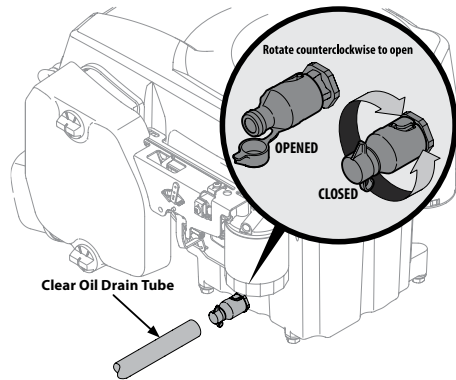
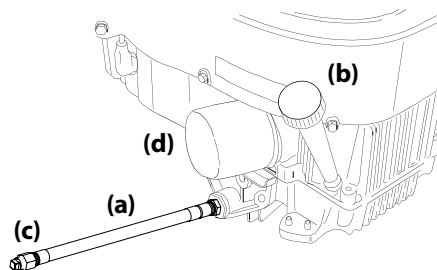

Figure 4-1
Figure 4-2
- Your engine is equipped with either a twist-and-pull oil drain (see Figure 4-1 and go to Step 5.) or a removable oil drain hose plug (see Figure 4-2 and go to Step 6.) Follow the applicable instructions for your tractor.
- Twist-and-pull oil drain (refer to Figure 4-1):
- Removable oil drain hose plug (See Figure 4-2):
- While holding the free end of the oil drain hose (a) over the oil collection container, unscrew the square head hose plug (c) from the end of the oil drain hose (a). See Figure 4-2. Drain the engine oil into the collection container.